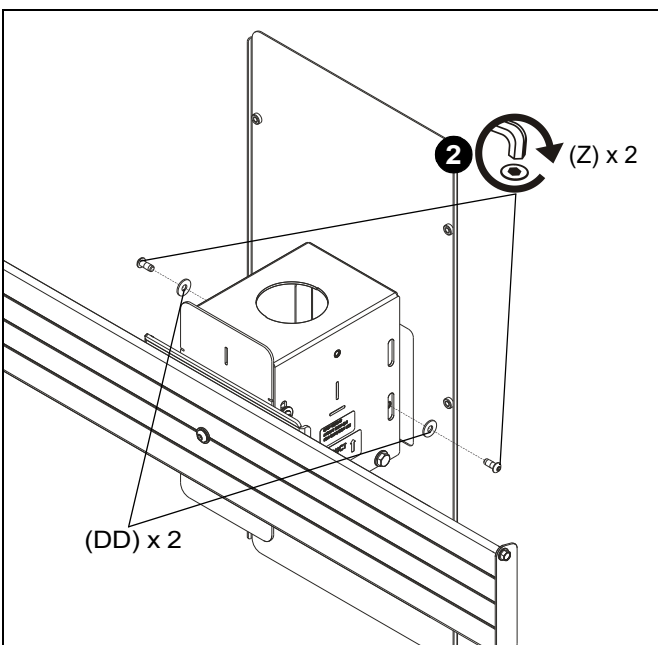

Figure 10
2. Use two 1/4-20 x 5/8" cap screws (Z) and two 1/4" washers (DD) to secure center wind shield (K) to sides of mount assembly (H). (See Figure 10)